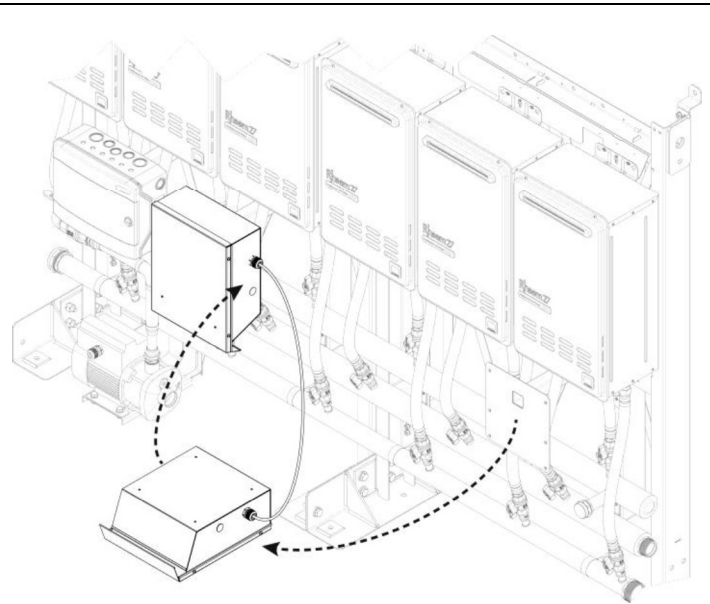

Figure 7
6. For multiple frame systems, remove the GPO assembly and extension module from the frame that does not contain the controller and pump, by removing the four screws for each GPO assembly and extension module. It may not be necessary to disconnect the wiring. Carefully cut the cable ties holding the cable in place and temporarily secure the GPO assembly and extension module onto the frame with the controller. Ensure electrical cables and connections are not stretched or damaged (refer to **Figure 7**).